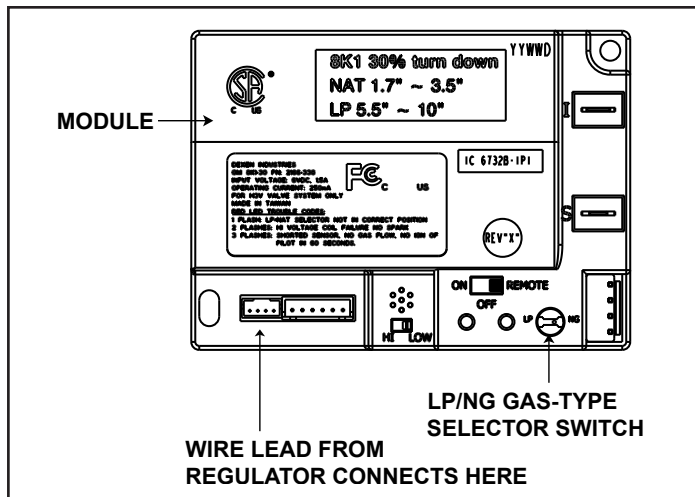

Figure 3.4 - Control Module
- Locate the module selector switch. (See Figure 3.4).
- Wait five (5) minutes to allow possible accumulated gas to clear.